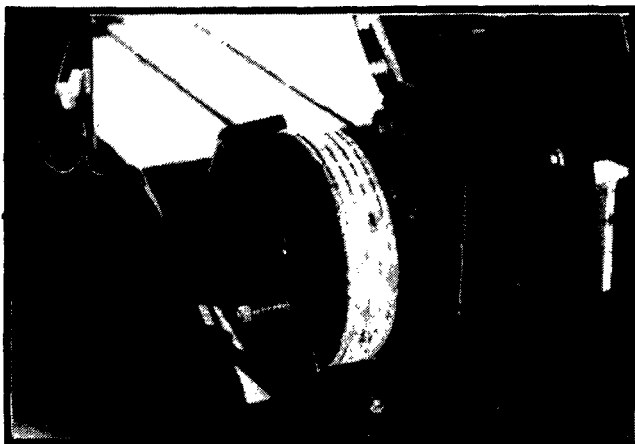

Figure 12
5. Pull down on the hitch of the trailer and lower the hitch to the ground. Position the Lawnaire IV so that it aligns with the stop assemblies. Adjust the stop assemblies to leave approximately a 1/4" (6 mm) space between the stop assembly and the wheel. Tighten stops securely. Place the wheel locking lever over the right wheel (See Figure 12) and prepare tote trailer for towing. Refer to the instructions and precautions for transporting the tote trailer.